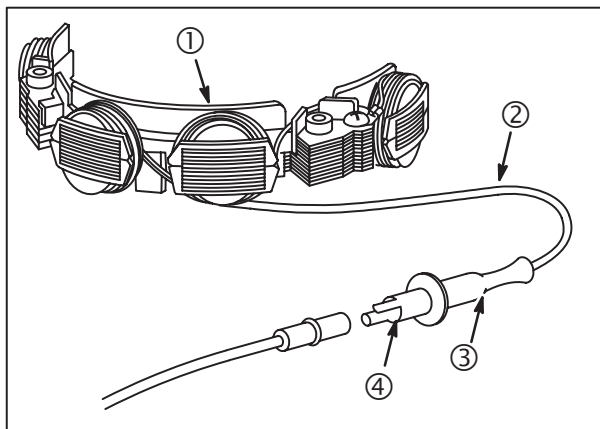

Fig. 12
1. Stator assembly (1), **Fig. 12**.
2. One RED lead from stator (2).
3. DIODE encased at connector (3).
4. RED connector output lead (4).